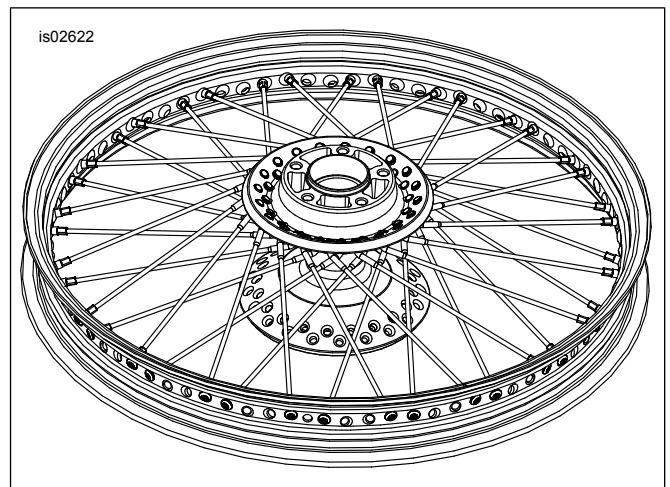

Figure 6. Install Inner Spokes (21-inch wheel shown)
5. See Figure 6. Insert the first **inner** row spoke into the hub. Angle the spoke counterclockwise crossing **four** outer row spokes. Loosely assemble the spoke nipples.